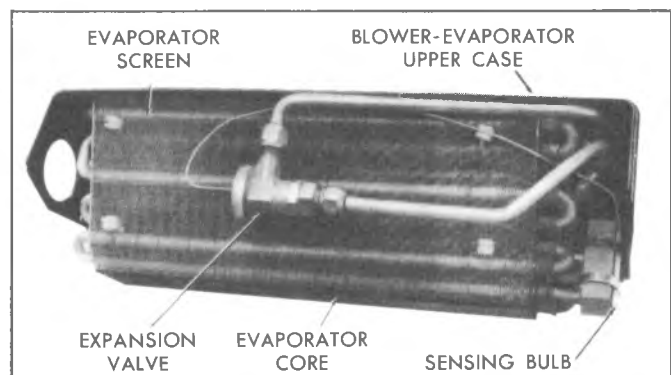

Fig. 1B-50-Expansion Valve (C-K Overhead System)
2. Install the expansion valve inlet and outlet lines using new "O" rings coated with clean refrigeration oil. Install the sensing bulb to the evaporator outlet line as shown in Figure 1B-50; make sure the bulb has good contact with the line.